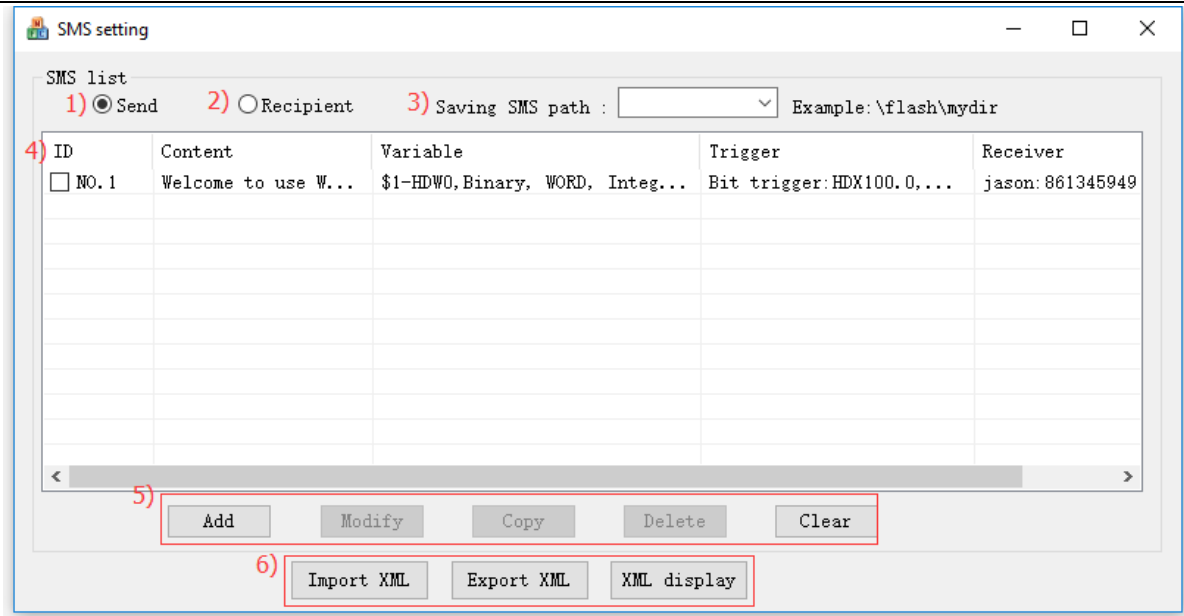

Figure 2
- 1) Please click "Project" → "Communication" and please click "SMS module setting", to open the setting screen, as Figure 2 shows.